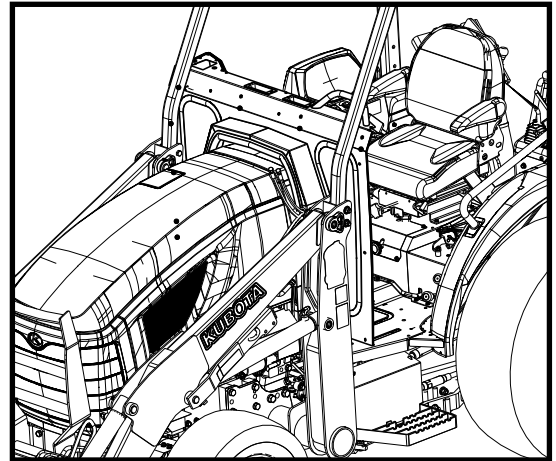

Figure 2.1: Slide On Cowl
- 2.1 Slide cowl over vehicle dash board (see Figure 2.1).